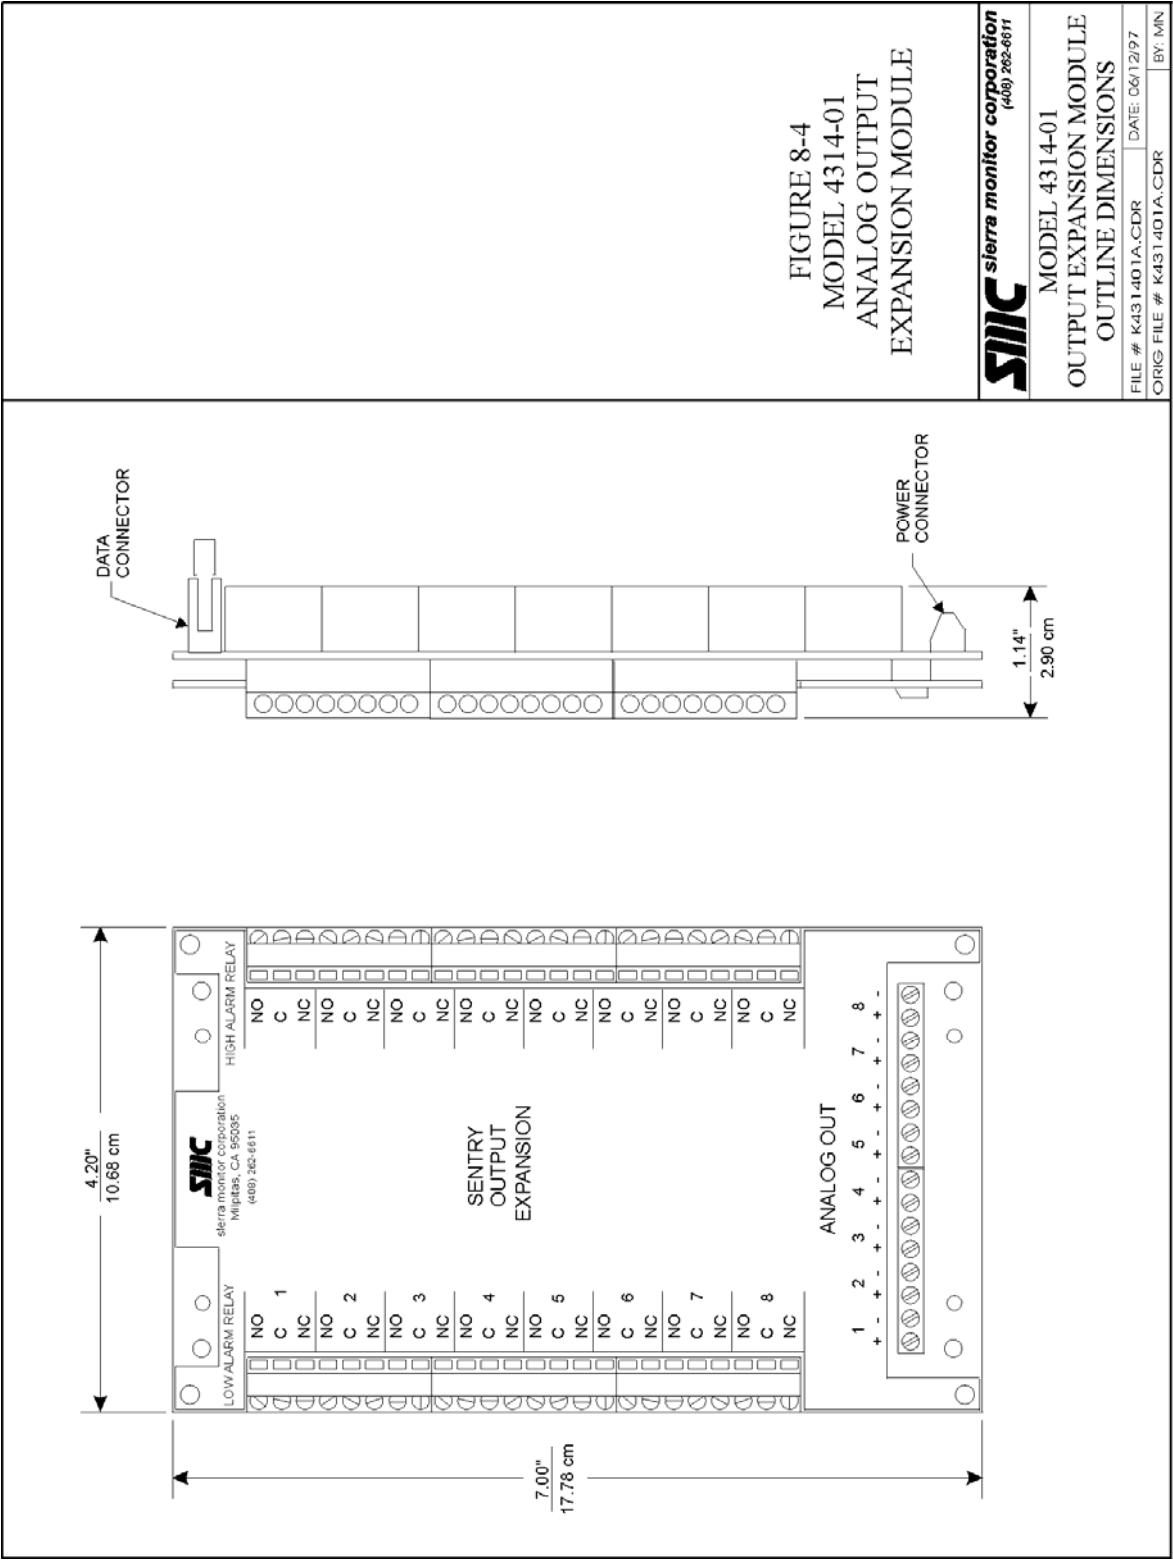

Figure 8-4
3. Plug the Output Expansion Panel connector cable into the connector panel of the controller. See J3 Figure 8-4 not required for NEMA enclosures].
4. Connect the two position DC power connector to Power (P) and Ground (G) on any channel of the Sentry controller.
Figure 8-4 shows the location of the sixteen relays which are (marked as "high" and "low" alarms for the respective modules) and the eight analog outputs marked.